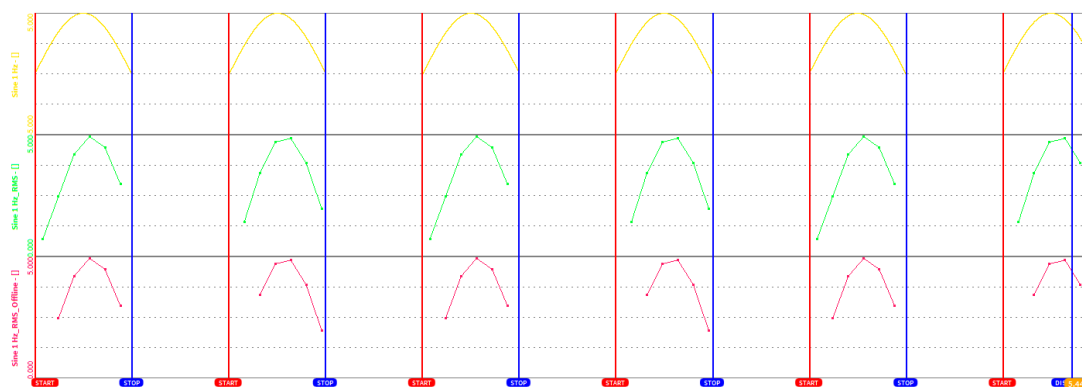

Fig. 7.178: Deviation of Offline and Online Statistics channels in case of Event based Waveform recording
- Be aware that an Offline Statistics channel will differ from an Online Statistics channel, i.e. at the beginning of the file or in case of Event based waveform recording (see Triggered Events). In the example displayed in Fig. 7.178, the green channel is an online calculated Statistics channel applied on the yellow analog channel and the red channel is an offline calculated Statistics channel applied on the yellow analog channel with identical channel settings. The deviation of the green and the red channel is due to the availability of the full analog data during online calculation. During the offline calculation, only the event based recorded analog data is available.